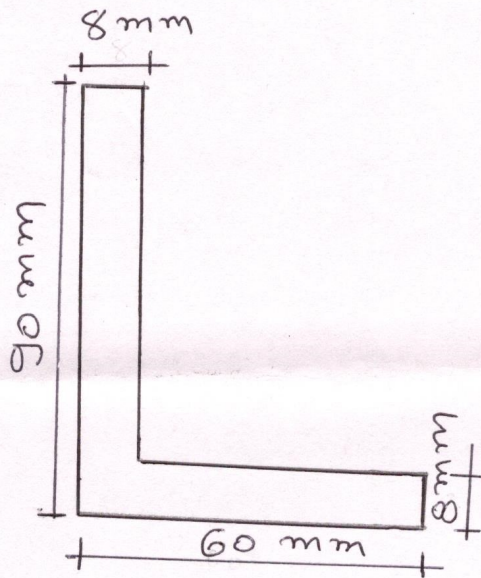

Fig. 1
- (d) Find moment of inertia for the L- section shown in fig.1 ૦૪